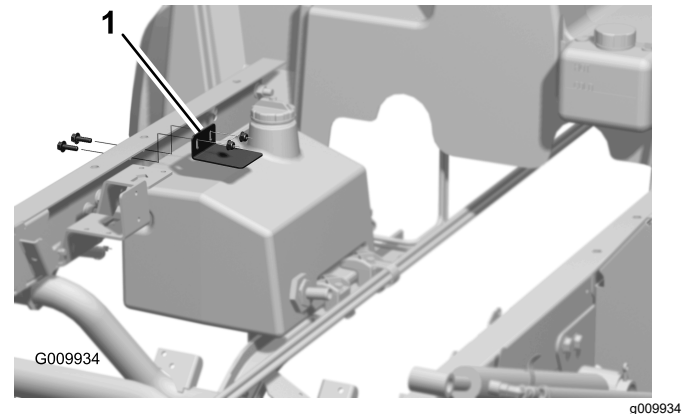

Figure 10
4. Loosely install the tank hold-down to the left frame channel with 2 flange-head screws (5/16 x 1 inch) and 2 flange nuts (5/16 inch) as shown in Figure 10.